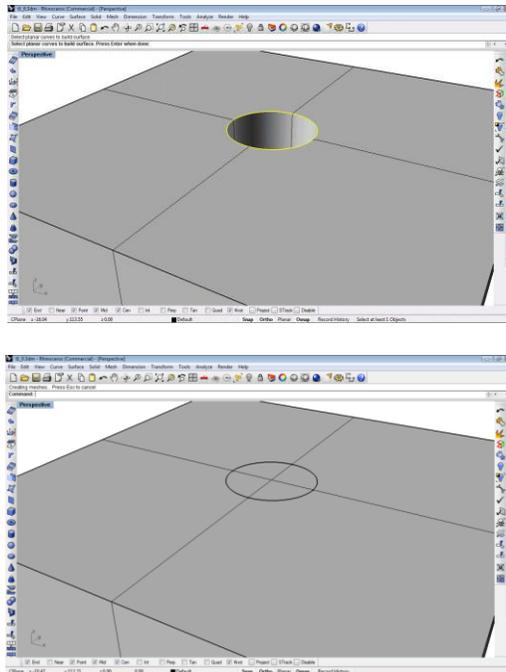

Figure 43: Highlighted curve representing the shaft rim (top) and the capped shaft (bottom)
12. Select the menu item **Surface | Planar Curves** and click on the circle representing the rim of the shaft opening (Figure 43). Press **<ENTER>** to complete the command and create a planar surface on the top of the shaft.